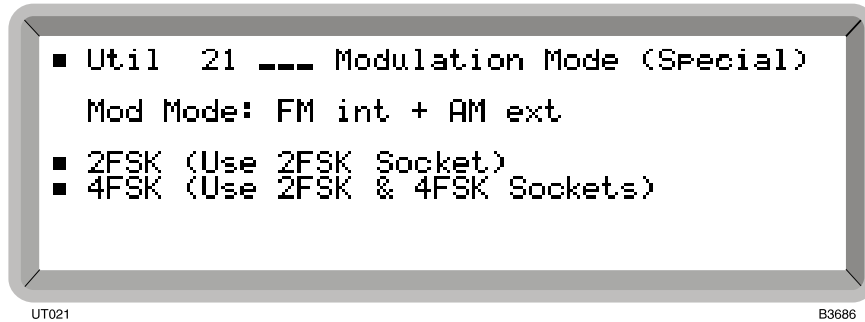

Fig. 4-25 Modulation mode (special) menu
- (1) Select the *Util 21: Modulation Mode (Special)* menu. This shows the currently selected modulation mode against *Mod Mode:* (see Fig. 4-25).